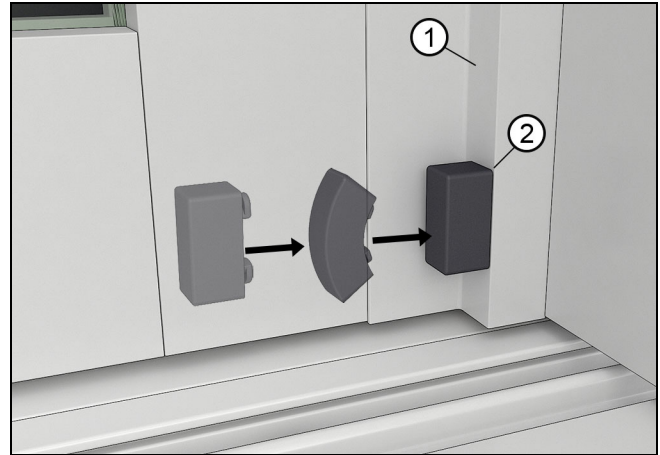

Figure 104
7. Insert a pocket cover bumper at the top and bottom of the pocket cover trim piece. Squeeze the rubber bumper and insert in to the pre-drilled holes. See Figure 104.